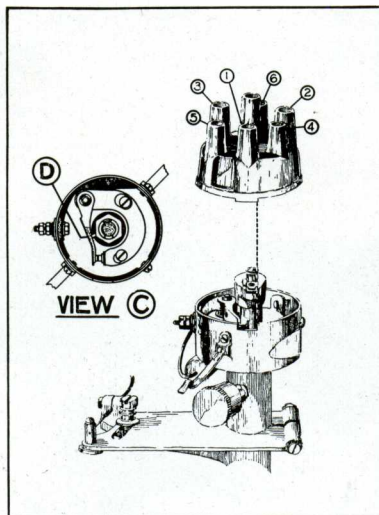
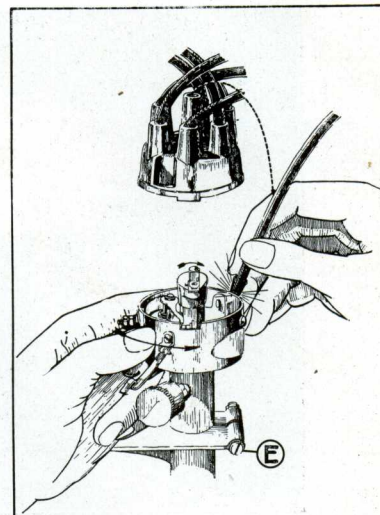

Fig. 89. Rotor Setting.
Fig. 90. Checking Timing.
3. Remove distributor cap and see that rotor is in line with slot in upper edge of housing, as shown in Fig. 89. This slot should then point toward right side of engine. The high tension wire attached to the terminal directly above
4. Loosen the timing clamp screw (E) and rotate housing, as shown in Fig. 90, in a counter-clockwise direction until the breaker points just barely open. View (C) in Fig. 89 shows the position of the rubbing block (D) on the cam when spark occurs. This can be de-
terminated by turning on the ignition and holding the wire which connects to the center terminal on distributor cap to form a gap with the metal parts of the housing, as shown in Fig. 90. Tighten adjusting clamp securely, making sure that distributor housing is not moved during this operation.